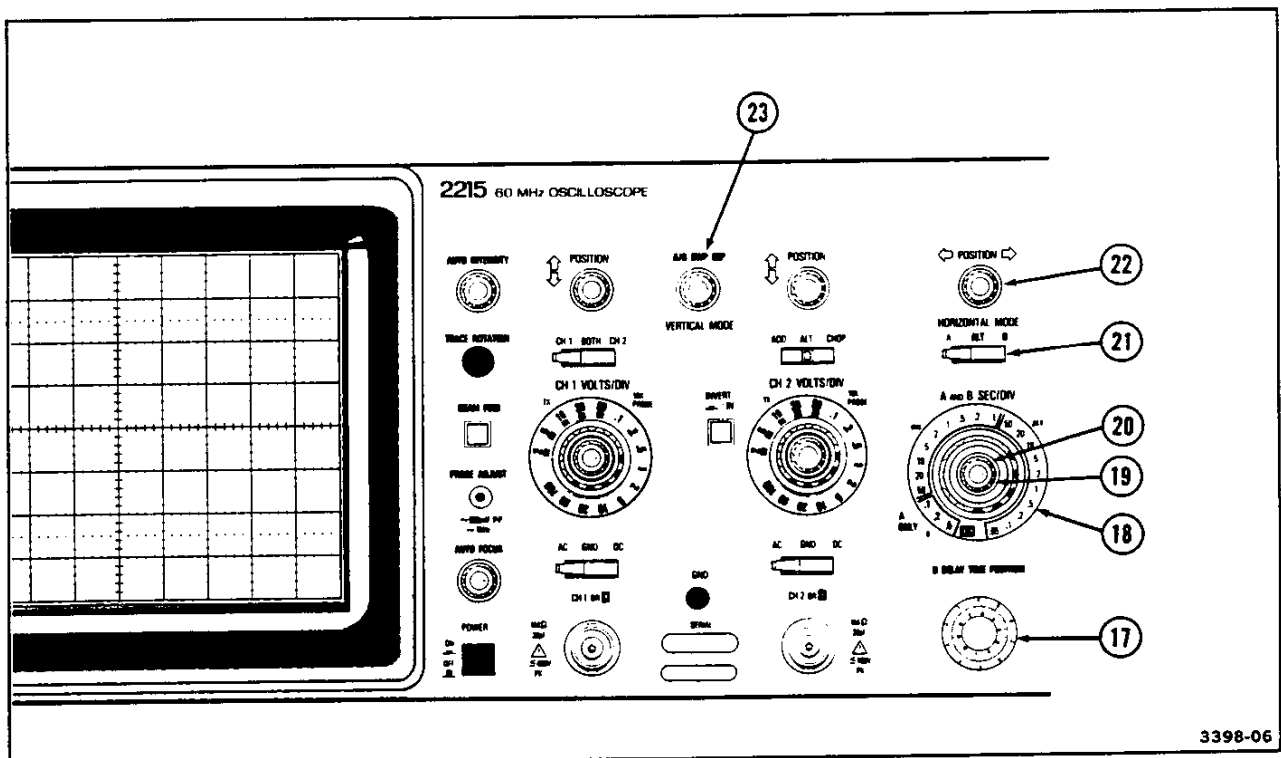

Figure 5. Horizontal controls.
Refer to Figure 5 for location of items 17 through 23.